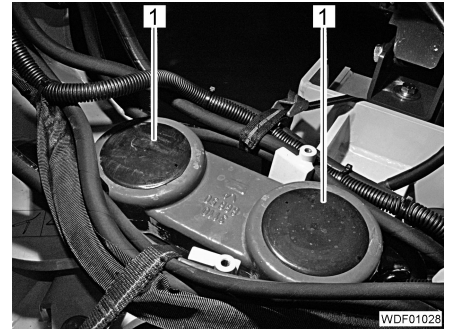

Fig. 346 Protective caps
- Press 1 protective cap (Fig. 346,1) into each hole.